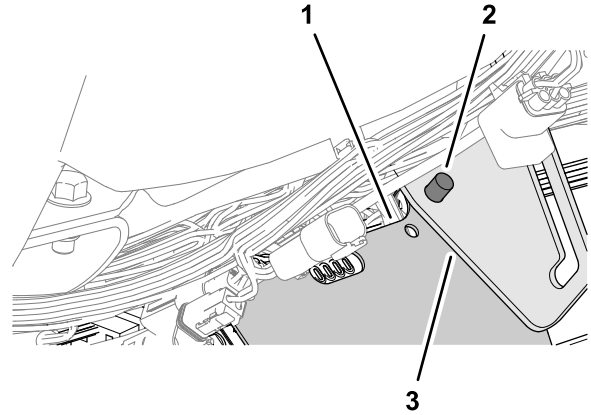

Figure 197
7. Insert the upper push-in fastener of the wire harness into the holes in the modem bracket and prop-rod bracket (Figure 197).